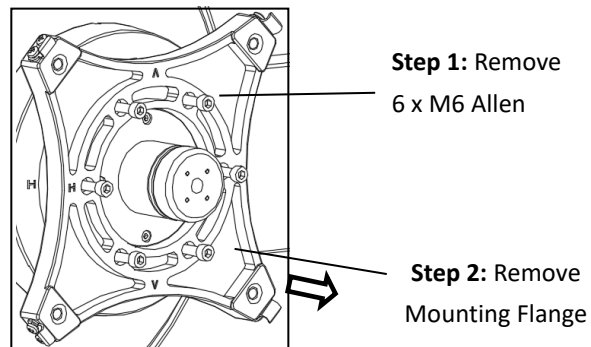

Figure 3.2 – Remove Flange
- 3.2 Remove the Mounting Flange first by removing 6 M6 bolts using the 5 mm L-spanner, then the single polarization antenna already on the antenna by removing the 4 M4 bolts (Adapter) using a 3 mm L-spanner. These parts will not be needed after the OMC is installed. See **Figs 3.2, 3.3, and 3.4**